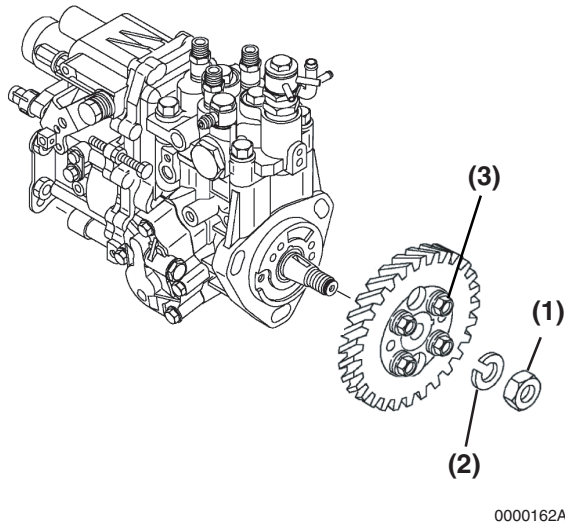

Figure 7-12
- Do not loosen or remove the four bolts (**Figure 7-12, (3)**) retaining the pump drive gear to the hub. Only remove the single drive gear nut (**Figure 7-12, (1)**) and washer (**Figure 7-12, (2)**), leaving the hub attached to the gear.
19. Hold the gear train using a large socket wrench on the crankshaft pulley nut. Loosen the fuel injection pump drive gear retaining nut **(Figure 7-12, (1))** and turn it out to the end of the fuel injection pump shaft.